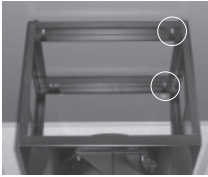

Fig. 2
- Screw the motor unit tight with the two remaining screws and then with the two screws which are already in position (fig. 2).